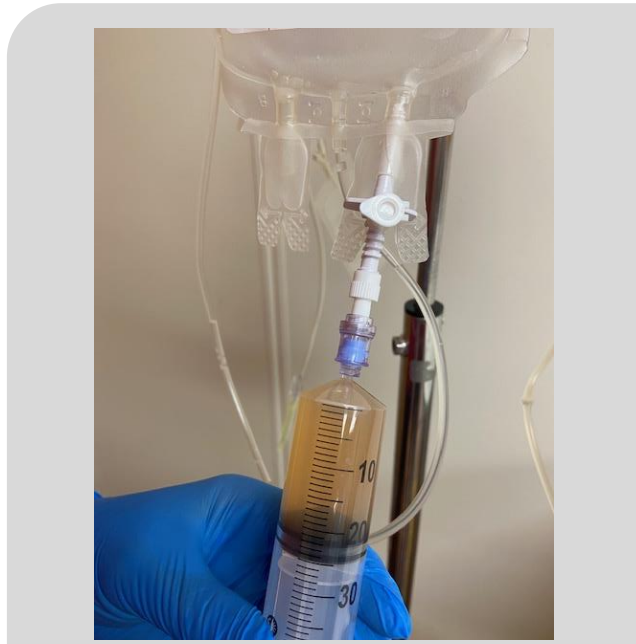

Fig. 17
- Push the syringe luer into the needle-free valve attached to the blood component and withdraw the desired blood component volume avoiding excessive aspiration pressure (Fig.17).